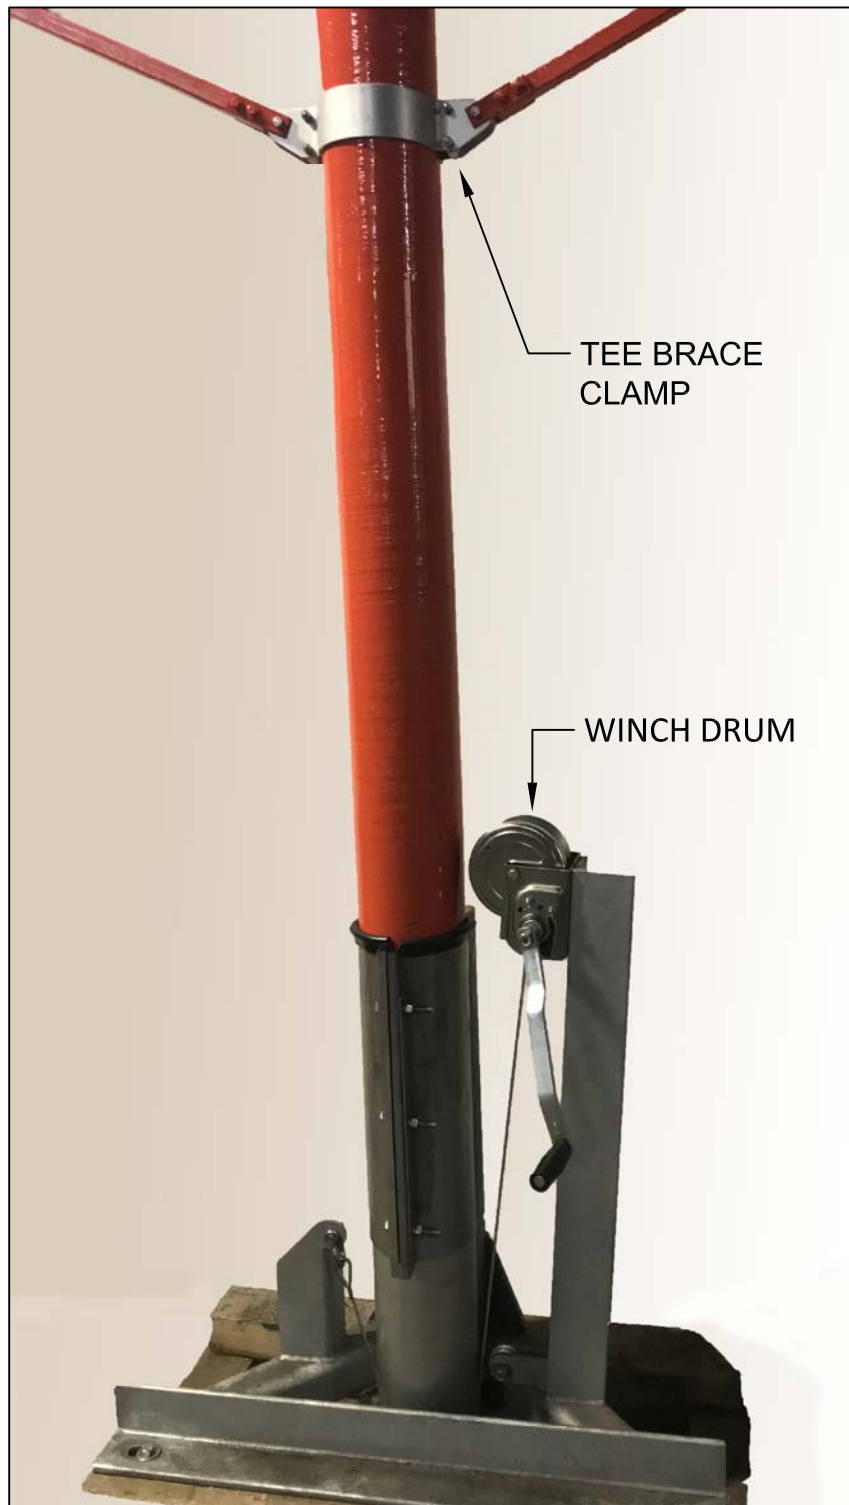

FIGURE 3-7
- A.** Remove cover from winch, located on mast lifting frame assembly (See Figure 3-7). Check cable to make sure that it is engaged in mounting socket sheave and secured to the shackle of the mast lifting frame assembly. If cable is not tight, take up slack with winch. Check to make sure that alignment pin is securely in place on the mast lifting frame sleeve.